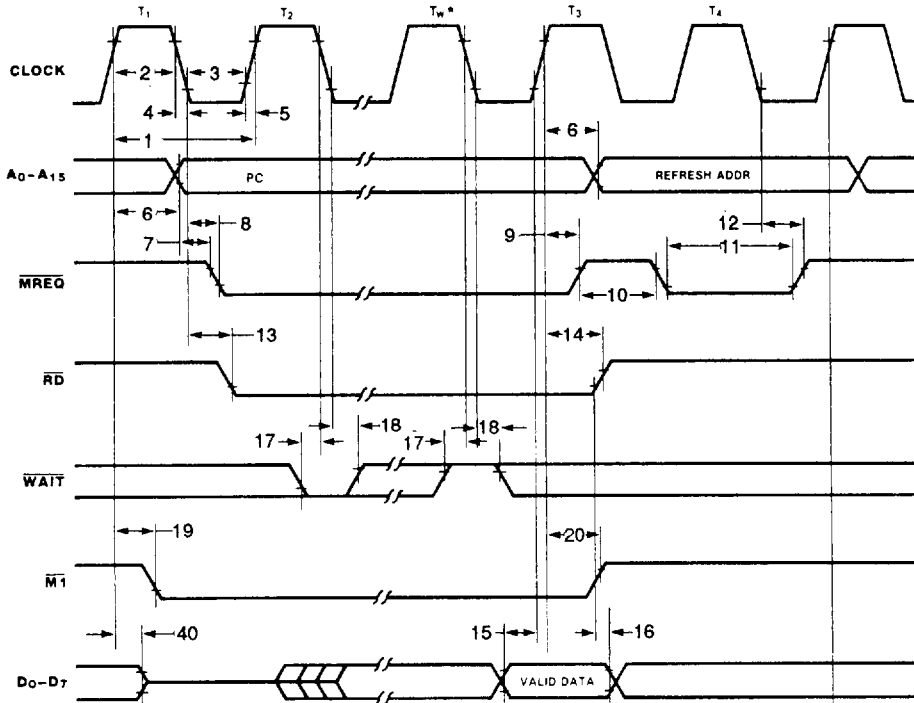

Figure 16 Instruction Opcode Fetch
**Instruction Opcode Fetch.** The CPU places the contents of the Program Counter (PC) on the address bus as the start of the cycle (Figure 16). Approximately one-half clock cycle later,  $\overline{MREQ}$  goes active. When active,  $\overline{RD}$  indicates that the memory data can be enabled onto the CPU data bus.